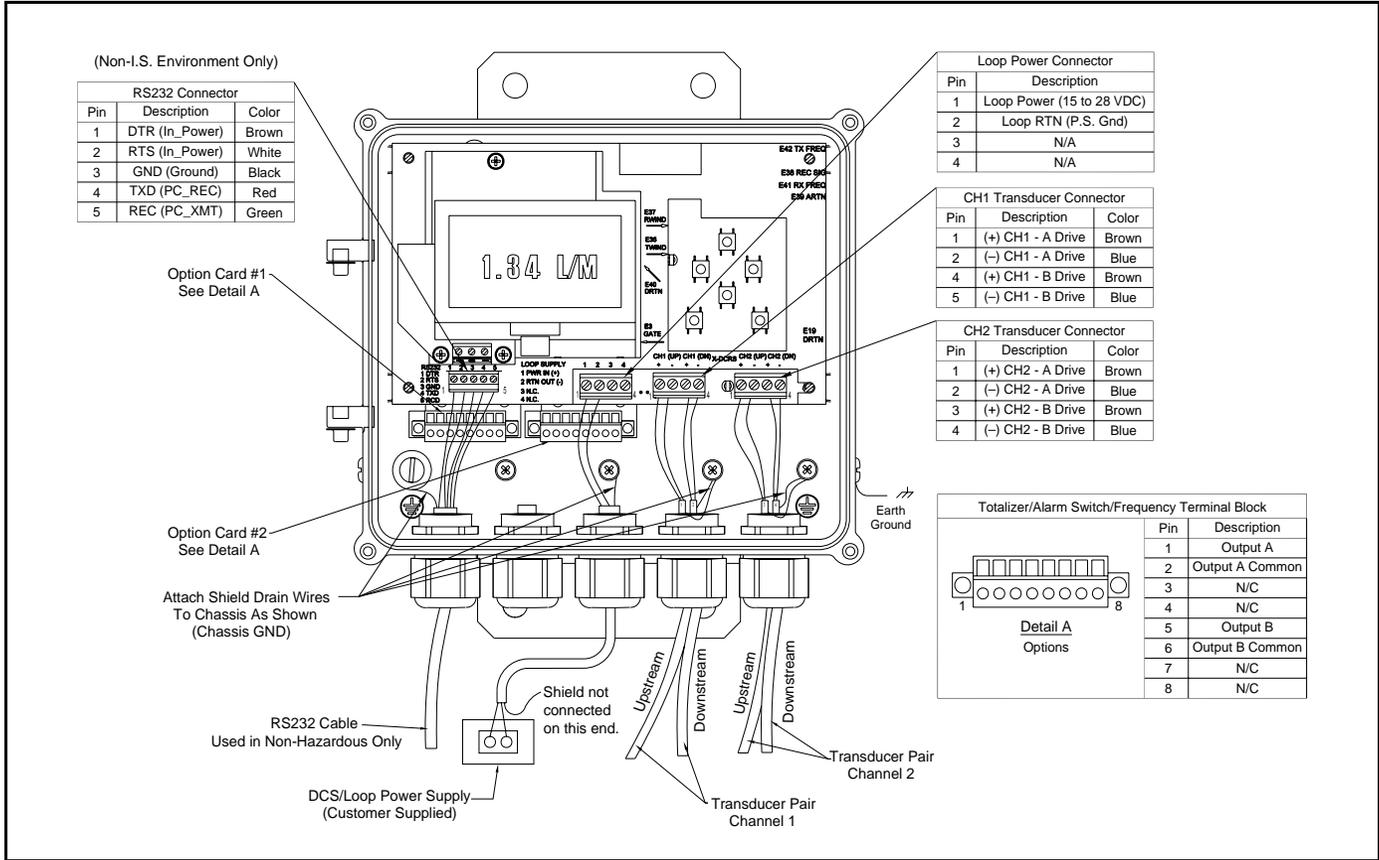
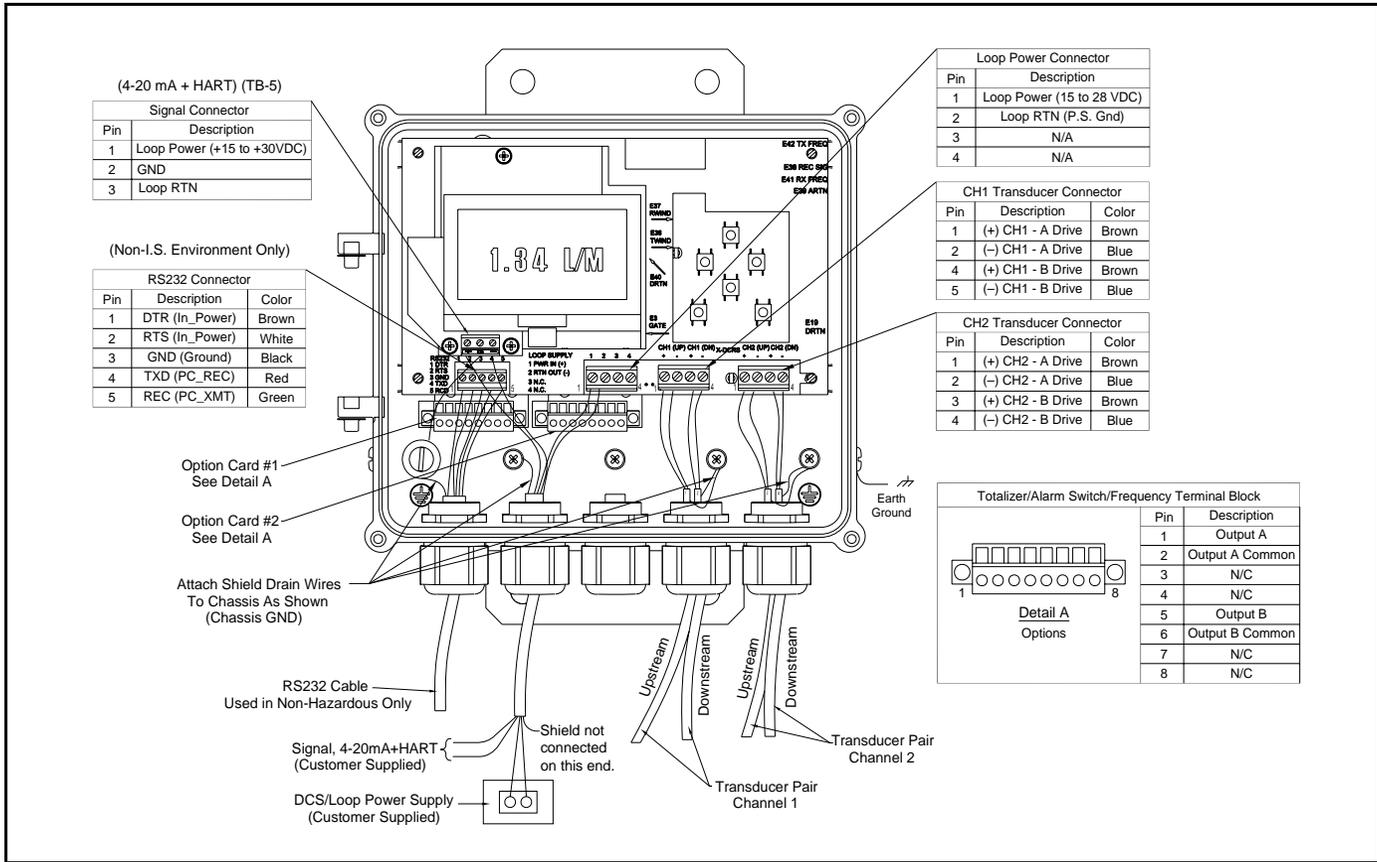

Figure 27: Standard Loop-Powered UTX878 - Wiring Diagram (ref. dwg # 702-528-00)
Figure 28: Optional 4-Wire UT4878 with HART - Wiring Diagram (ref. dwg # 702-528-01)
1. Refer to the wiring diagram in Figure 27 on page 23 or Figure 28 on page 24 and connect the transducer cables to the terminal block (TB-1) for Channel 1. Then, secure the cable clamp.
3. Feed the flying leads end of the cable through the conduit hole and wire the leads to the RS232 terminal block (TB4) as shown in Figure 27 on page 23 or Figure 28 on page 24. Connect the other end of the cable to the ANSI terminal or personal computer, and secure the cable clamp.